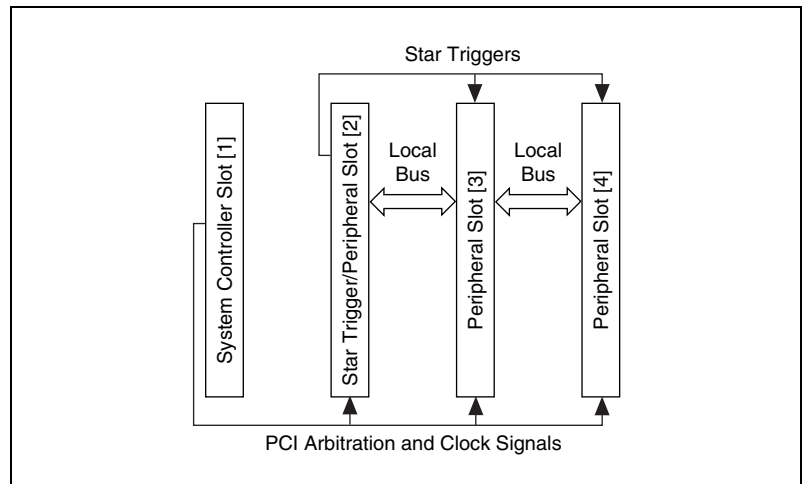

Figure 1-4. PXI Star Trigger and Local Bus Routing
The star trigger (ST) slot is Slot 2. This slot has dedicated equal-length trigger lines between slot 2 and peripheral slots 3 and 4 (refer to Figure 1-4). Slot 2 is intended for modules with ST functionality that can provide individual triggers to all other peripheral modules. However, if you do not require advanced trigger functionality, you can install any standard peripheral module in this slot.
The PXI backplane local bus is a daisy-chained bus that connects each peripheral slot with adjacent peripheral slots to the left and right (refer to Figure 1-4). For example, Slot 2's right local bus connects to Slot 3's left local bus, and so on.